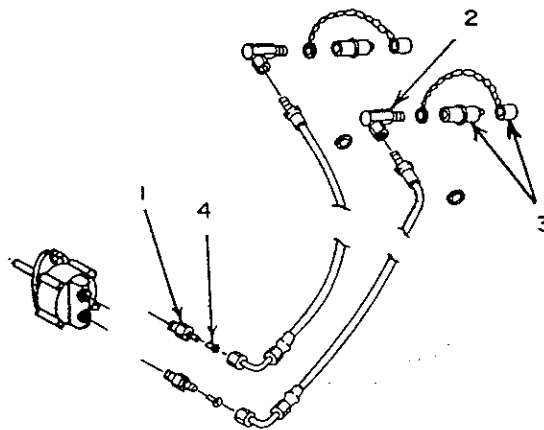

FIGURE 17
- l) Install a connector 7/8" O.R.B. male x 9/16"-18 J.I.C. male (fig.17, item 1) in each port of hydraulic motor.
- m) Install 90 degree elbow 1/4" male x 1/4" pivoting female (fig.17, item 2) at male end of hoses.
- n) Using thread sealant, attach a male quick coupler with rubber dust cap (fig.17, item 3) on each elbow (dust cap ring must be on hose before installation).
- o) Connect the two hydraulic hoses to the motor, placing a flow restrictor (fig.17, item 4) in connector (fig.17, item 1).